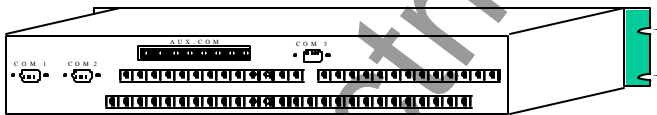
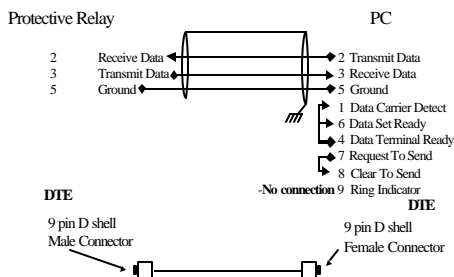

Figure 3 - Rear Panel Com Port Location.
Figure 4 - DPU2000(R), TPU2000(R), or GPU 2000(R) to PC Cable 9 to 9 Pin-out
The RS 232 ports on the protective relay are designated as Com 0, Com 1, Com 2, and Com 3. Com 0 is located on the front of the unit. As illustrated on Figure 3, Com ports 1 through 3 are located on the back of the unit. The inherent design of the RS 232 electrical interface is designed for point to point communication over copper medium. The RS232 pin designations on the DPU2000(R), TPU2000(R), or GPU 2000(R) is illustrated in Figures 4 and 5.
A cable diagram is illustrated in Figure 4. Figure 4 shows the direction of communication signal transmission and the gender of the connectors used in constructing a communication cable.
Connection of a PC to a DPU/TPU/GPU requires cable modification since the interconnected devices are both DTE. The same cabling would be utilized if one would connect two DCE devices. The classifications of DTE/DCE devices allow the implementers to determine which device generates the signal and which device receives the signal. Studying Figure 4, Pins 2 and 3 are data signals, pin 5 is ground whereas pins 1,6,7,8,9 are control signals. The arrows illustrate signal direction in a DTE device. The family of DPU/TPU/GPU protective devices do not incorporate hardware or software “handshaking”.
The DPU/TPU/GPU devices do not incorporate handshaking, therefore, the control lines may be ignored as illustrated in Figure 4. However, some PC software utilizes handshaking, thus the port on the personal computer may require a special hardware configuration of the cable to the port. Consult with the software vendor to determine RS232 control and buffering requirements and the need for signal jumpers required in RS232 cabling.